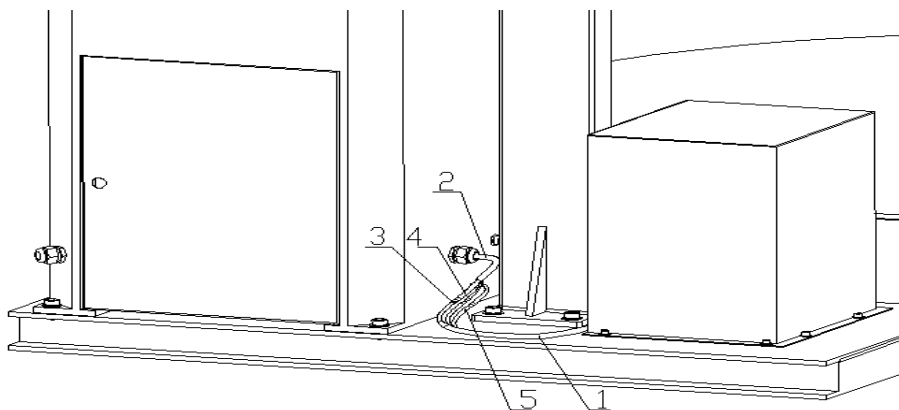
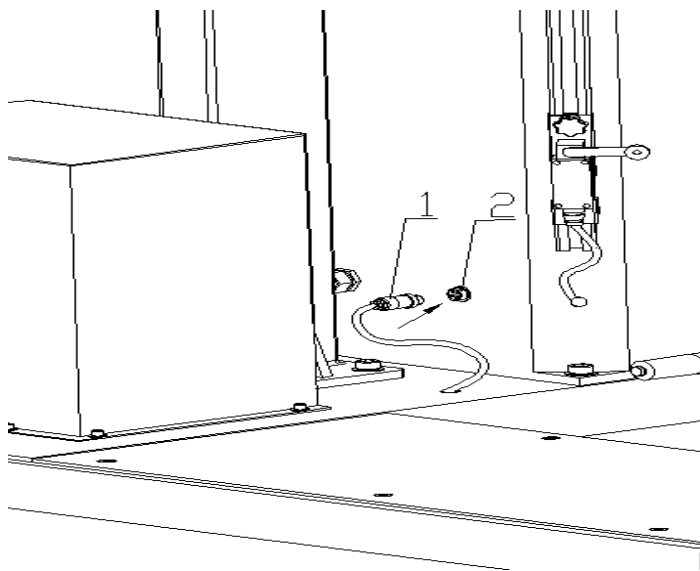

Fig.4-5
FIG4-6
A. Check machine stability(Fig.4-5;Fig.4-6)